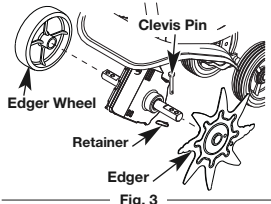

Fig. 3
3. Slide the edger wheel onto the right side of the tine shaft and secure by pushing the cotter pin through the inner most hole and then inserting the clip into the cotter pin (Fig. 3).
4. Slide the edger blade, with the hub facing in, all the way onto the left side of tine shaft (Fig. 3).
5. Secure the edger blade to the shaft by sliding the clevis pin into the outer most shaft hole (Fig. 3).